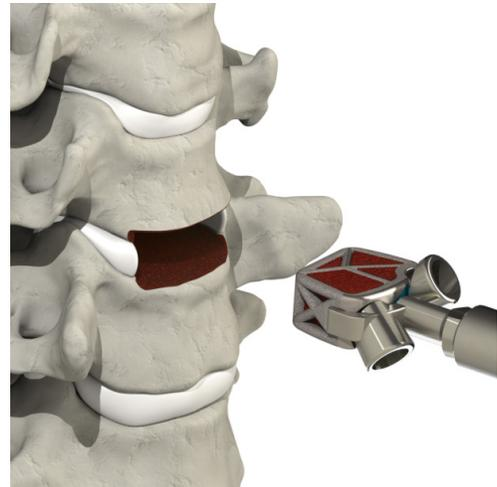

Figure 7.1
- ▲ Introduce the implant into the prepared intervertebral space and tap it into place with a mallet (Fig. 7.1 and 7.2). Confirm the proper placement of the implant using fluoroscopy.